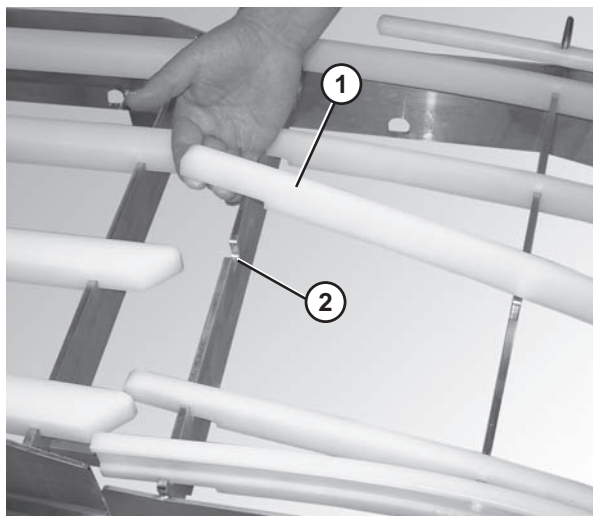

Figure 28
3. Insert the wear strips (**Figure 28, item 1**) into the appropriate slots in the frame (**Figure 28, item 2**), starting with the shortest wear strip on the inside of the curved section and working outward to the longest.